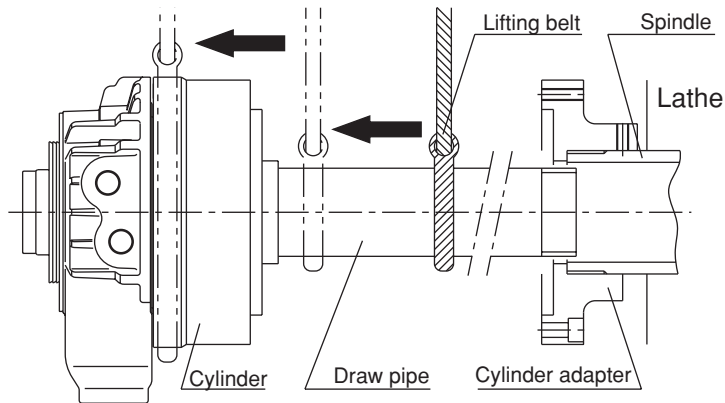

Fig.13
- When removing/installing the cylinder, use a lifting belt and perform as follows. (Fig.13)